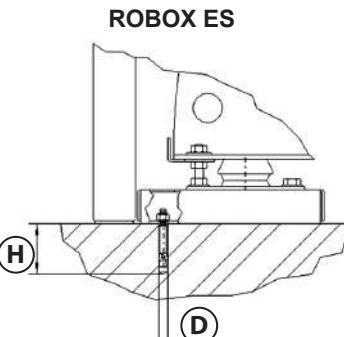

Fig.7B
- Forare il pavimento come indicato in Fig. 7B.
- Fissare i piedi mediante tasselli ad espansione come indicato in Fig. 7B.
- Pierce the floor as Fig. 7B shows.
- Fasten the feet by means of the screw anchors as Fig. 7B shows.